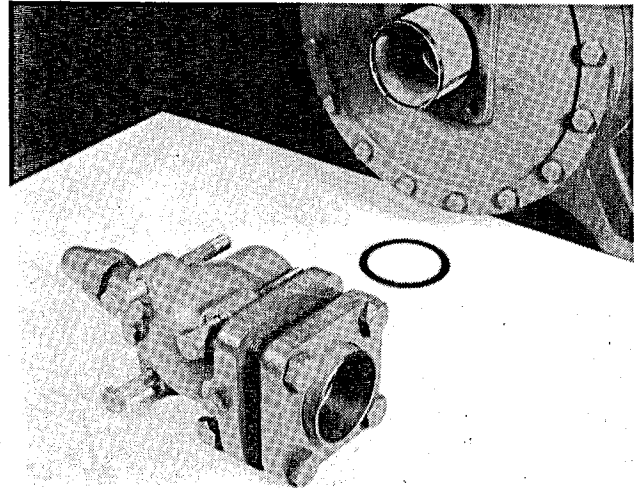

Figure 22
3. Pull the suction strainer out of the suction cover (Figure 22).